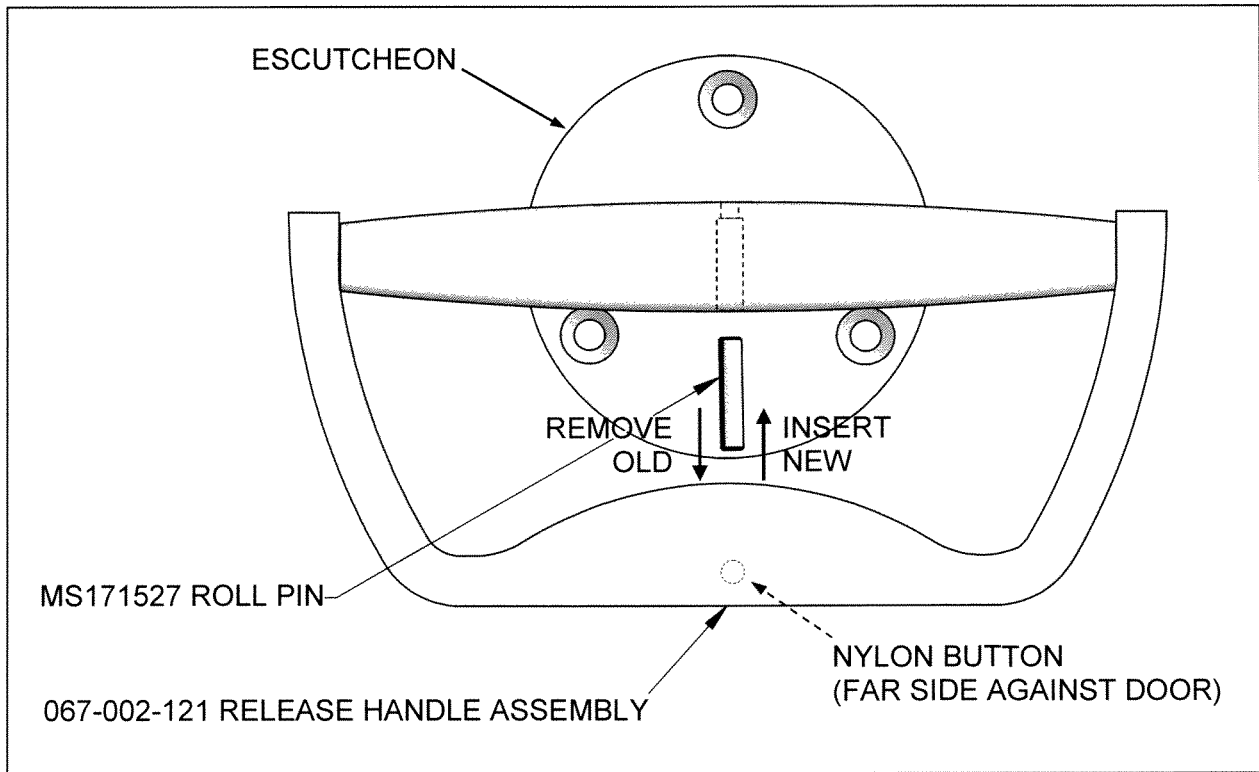

FIGURE 1
1. Note orientation of top side of "D" Handle crossbar relative to door. (See Figure 1) Remove and retain the 3 screws fastening the Escutcheon to the door.
6. Reinstall "D" Handle Assembly on door oriented as shown in Figure 1. Ensure handle is spring loaded against door with nylon button contacting door surface.